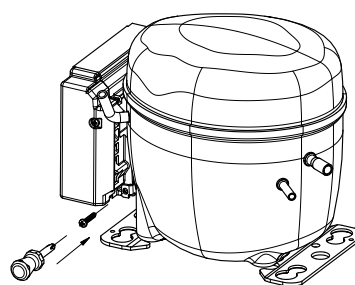
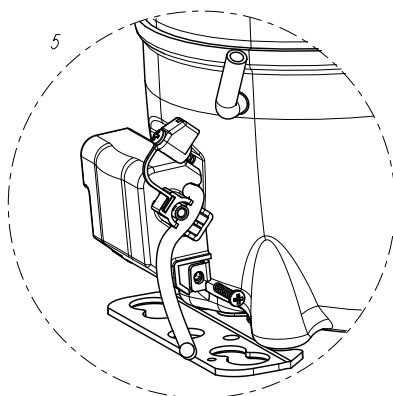

Figure 3.7: Step 4 - Screw the inverter
Figure 3.12: Step 5 - Screw the fence cover
- The screws shown in Figure 3.7 and Figures 3.12, 3.13 must be fixed with torque of 1.0 Nm (± 0.2).